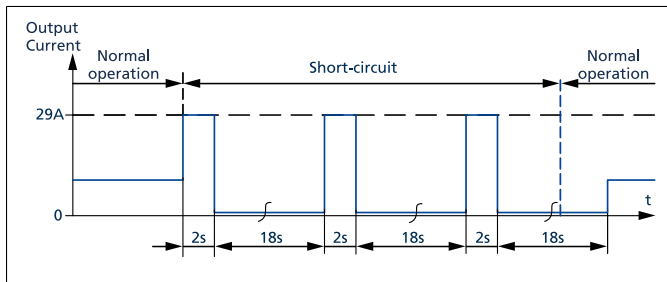

Fig. 6-3: Short-circuit on output, HiccupPLUS mode, typ.
- 2) At heavy overloads (when output voltage falls below 13V), the power supply delivers continuous output current for 2s. After this, the output is switched off for approx. 18s before a new start attempt is automatically performed. This cycle is repeated as long as the overload exists. If the overload has been cleared, the device will operate normally. See Fig. 6-3.